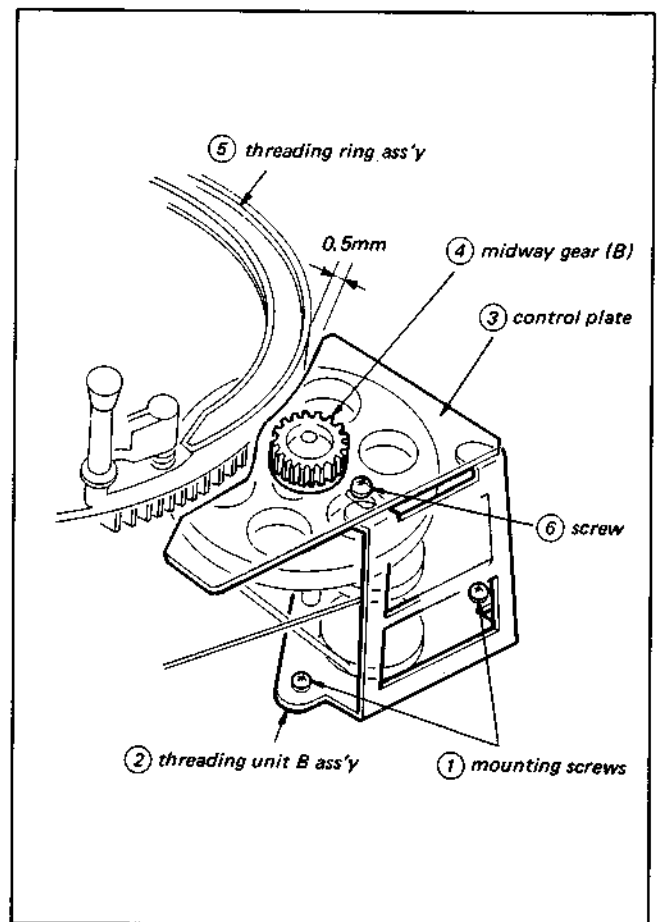

Fig. 3-22. Position adjustment of threading unit B assembly and control plate
1. Push down the cassette detection lever with fingers to perform the threading operation and release the lever when the threading ring assembly (5) shown in Fig. 3-22 has turned 90 degrees.
2. Loosen screws (1) shown in Fig. 3-22. Make the clearance (0.2mm) between midway gear (B) (4) and threading ring assembly (5) and tighten screws (1).
3. Make a clearance of 0.5mm between control plate (3) and threading ring assembly (5) and tighten screw (6).